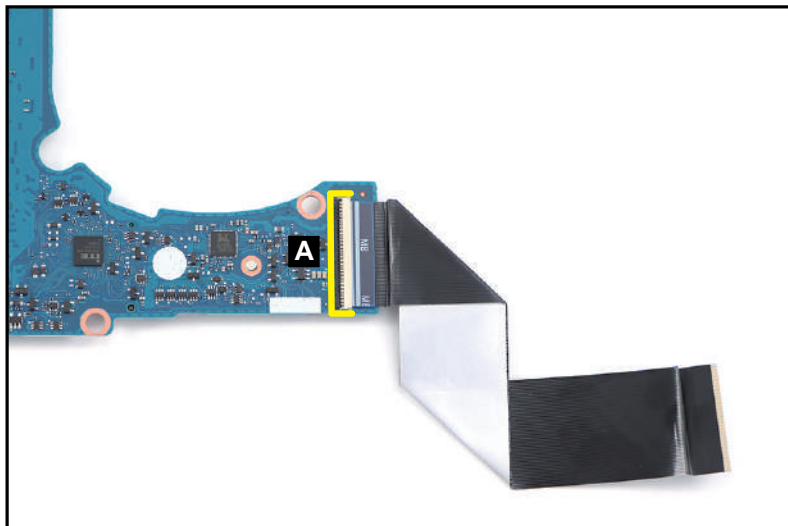

Figure 3-106. Replacing the Mainboard
1. Connect the USB board FFC to the mainboard connector (A) (Figure 3-106).